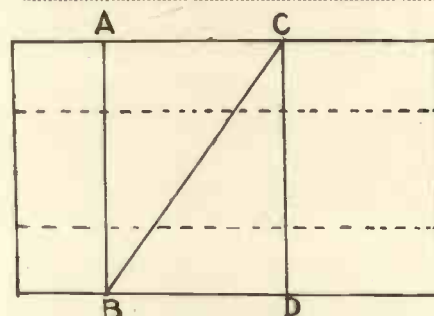

Fig. 5.—Method of cutting the cork to support the glass plates.
First bore a clean hole  $\frac{1}{2}$  in. in diameter through the cork. Then with an indelible pencil draw a ring round the outside of the cork, at a distance of about  $\frac{1}{2}$  in. from one end (AB, Fig. 5);  $1\frac{1}{2}$  in. from this ring draw another (CD). Then make a clean cut through the cork from the top (C) of one ring to the bottom (B) of the other.
is bevelled to a sharp edge, whilst the upper edge of the V-shaped slot in the aluminium strip is treated in the same way. Fig. 5 shows an enlarged sketch of a section through this part of the mask.